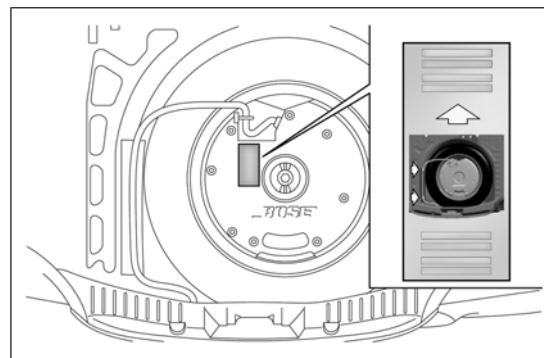

fig. 122
- ☐ reposition the container (with the arrow pointing forwards) in its housing and place the subwoofer on top of it, taking care to arrange it according to the indications on the container (fig. 122) so that the word "BOSE" is read in the correct position;